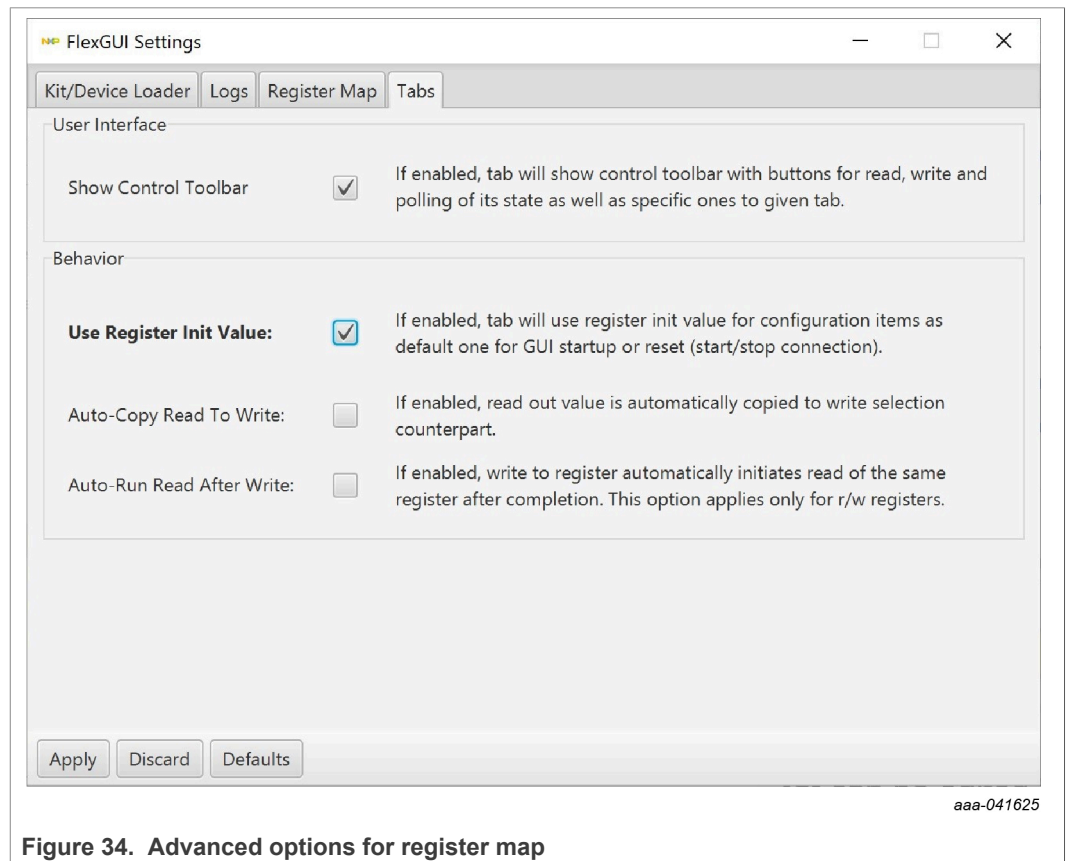

Figure 34. Advanced options for register map
The contents of the selected register, or register group, is displayed in the main window. Register data can be edited in the top row in preparation for writing to the register. When option **Use Register Init Value** is selected, the editor is initialized with the default values at start-up and reset (Figure 34). If this option is not selected, all bits will be 0 at start-up and reset.
- Clicking the **Reset** button undoes changes made to the 'write' row(s) since the most recently executed write action(s) on the associated register(s). If a register has not been previously written to, the selected rows are re-initialized (with the default values as selected via the **Use Register Init Value** check box; see Figure 34).